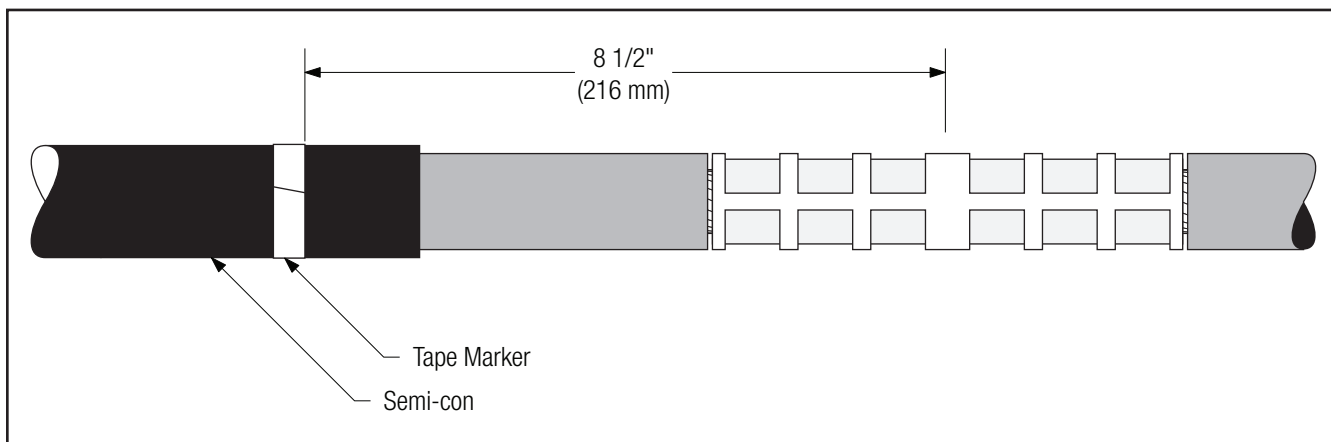

Figure 17
- 5.1 Apply a tape marker to semi-con insulation shield on cable which does not contain splice. Measure 8 1/2" (216 mm) from center of connector (*Figure 17*).